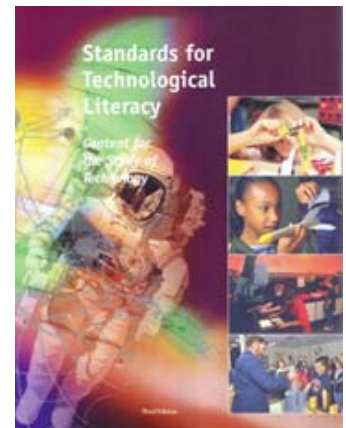

Figure 4C. *Standards for Technological Literacy (Content for the Study of Technology)*
- *Standards for Technological Literacy (Content for the Study of Technology)*: Published by International Technology Education Association (ITEA, 2002), available from ITEA Website at http://www.iteaconnect.org/TAA/Publications/TAA_Publications.html (Figure 4C).